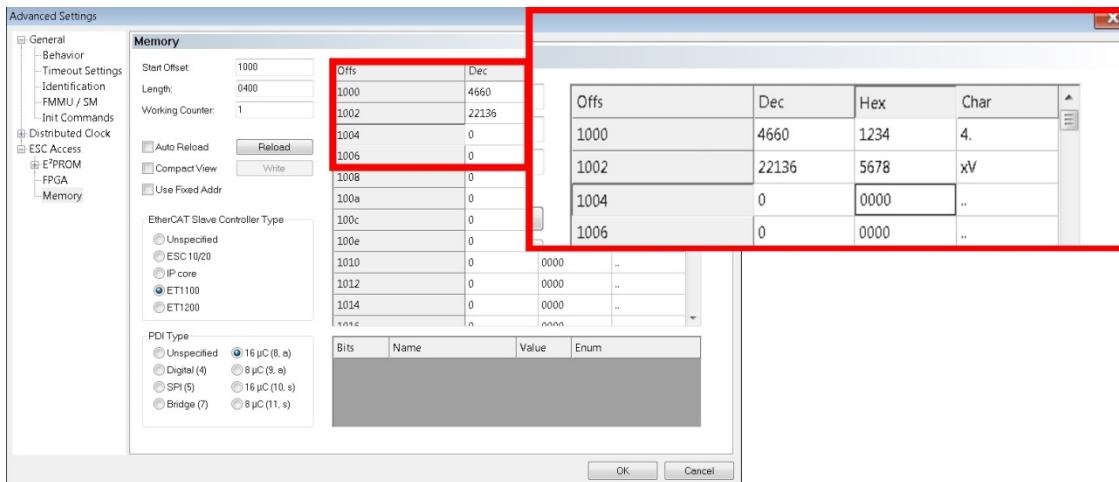

Figure 36. TwinCAT3 Memory Read Window
4. Open up the “advanced settings” window in TwinCAT3 and go to the memory browser at ESC Access → Memory and view Start Offset = 1000h as shown in Figure 36.